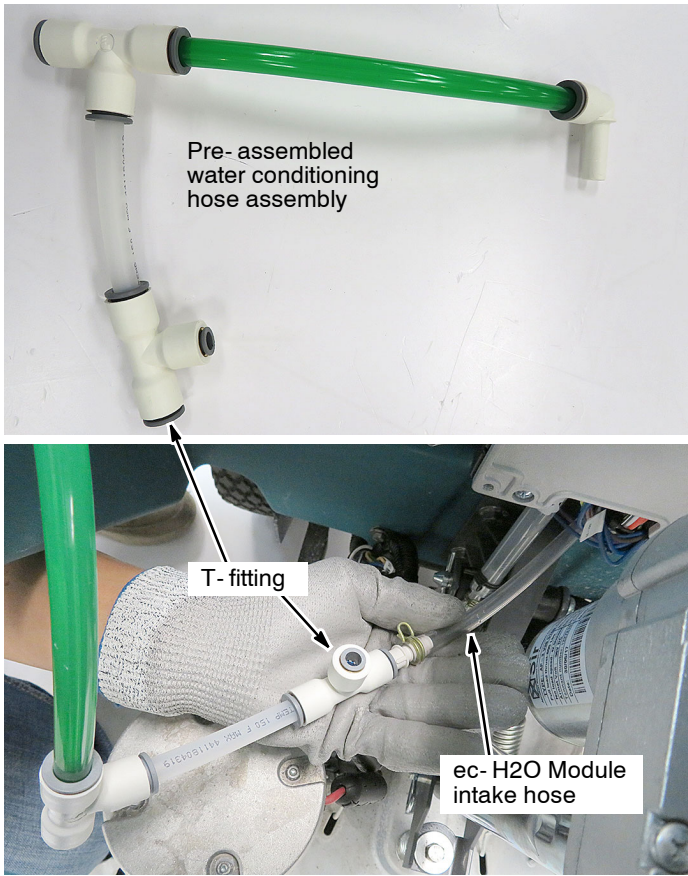

Fig. 10
9. Connect the pre-assembled water conditioning hose assembly to the T-fitting on the ec- H2O module intake hose as shown (Figure 10).